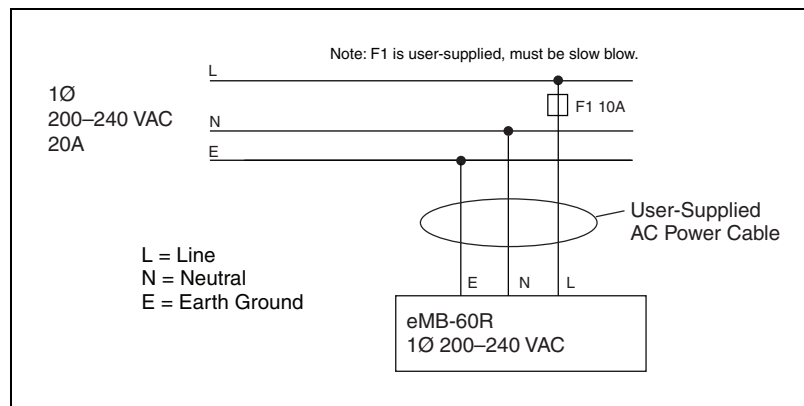
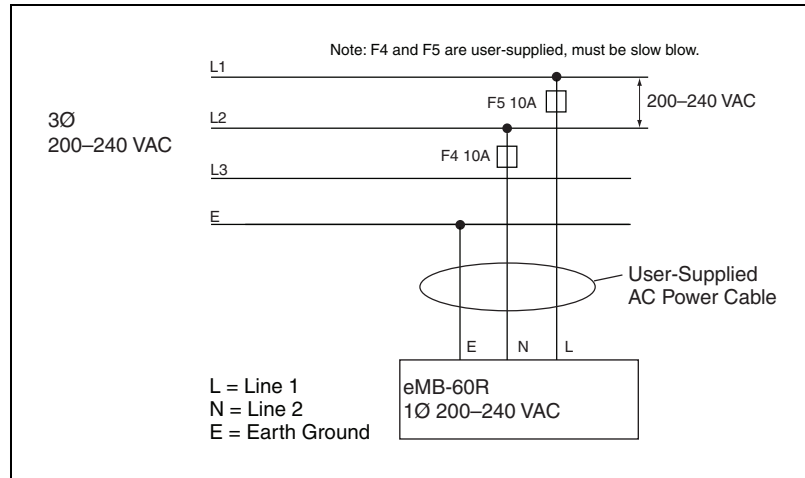

Figure 5-5. Typical AC Power Installation with Single-Phase Supply
Figure 5-6. Single-Phase Load across L1 and L2 of a Three-Phase Supply
1. Connect the unterminated end of the AC power cable to your facility AC power source. See Figure 5-5. and Figure 5-6.